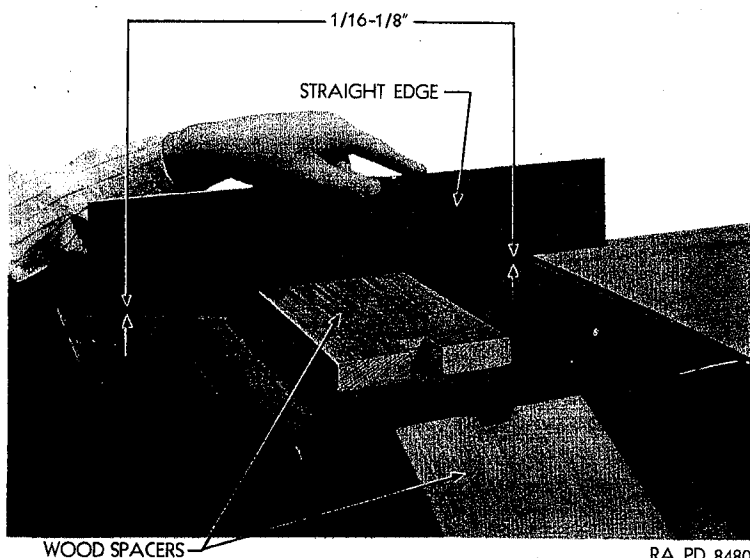

Figure 45—Fuel Tank Spacer Alignment
- (1) Install spacers on top faces of fuel tank and bend clips over to hold spacers in place (Fig. 45).
- (2) Position front and bottom fuel tank spacers in sponson and lower fuel tank into place.
- (3) Install side and rear spacers.
- (4) Connect fuel tank outlet line at nipple.
- (5) Press fuel tank down and tighten fuel tank rear partition. This will tighten the fuel tank in place.
- (6) Lay a straightedge across top of sponson and check to see whether top of wooden spacer on top of fuel tank contacts the straightedge (Fig. 45). If there is a slight gap between the top of the shims and the bottom of the straightedge, install heavy paper shims until they are slightly higher than the top of the sponson.
- (7) Install engine compartment cover brackets.
- (8) Install engine compartment cover and tighten securely.